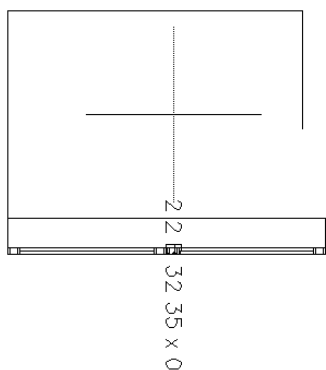

Figure 3
6. If there are to be styled doors/drawer fronts, add them now with the **BLOCK** option set to **add**, figure 3. You may need to change the view in order to see the door fronts for this step. If you wait to add the styled doors you will have to rotate the drawing in order for the doors to be drawn on the X-Y plane.